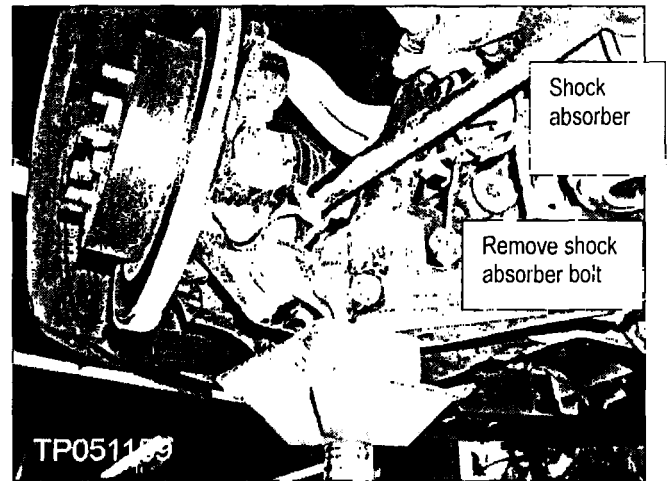

Figure 21
25. Now place a support jack under the front lower link. Then disconnect the shock absorber from the link (see Figure 21).